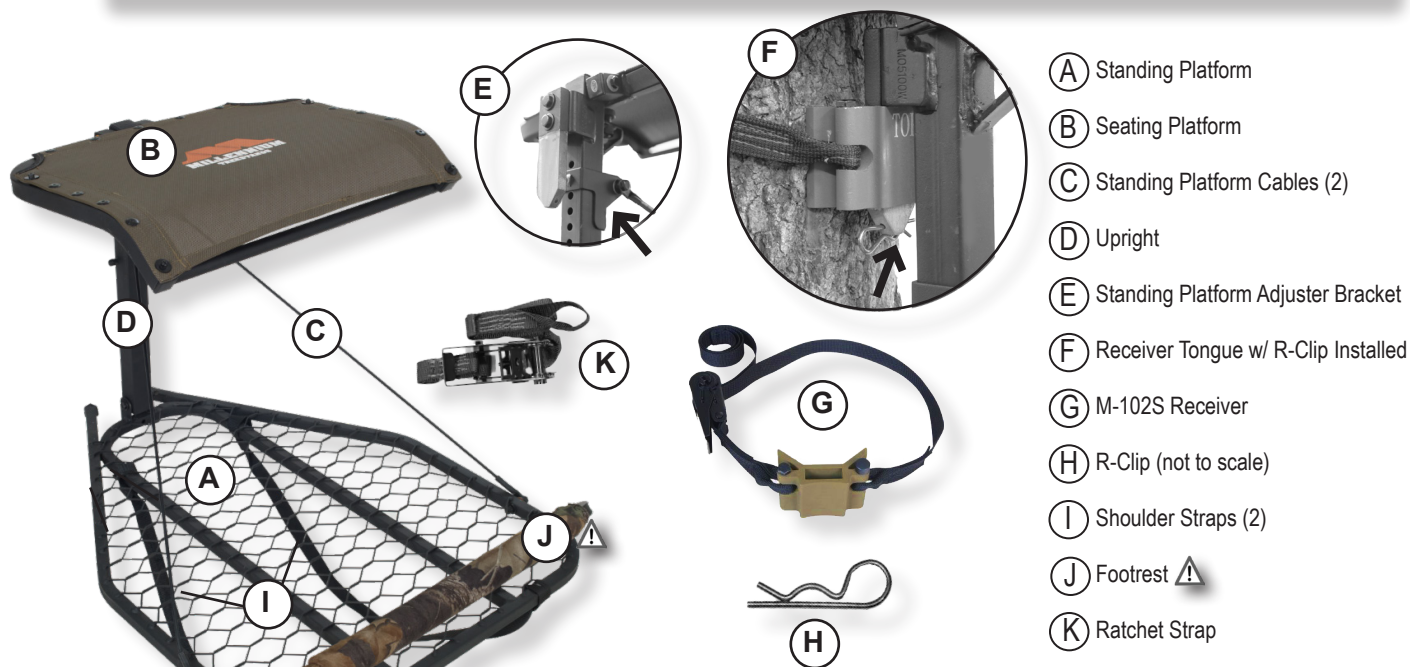
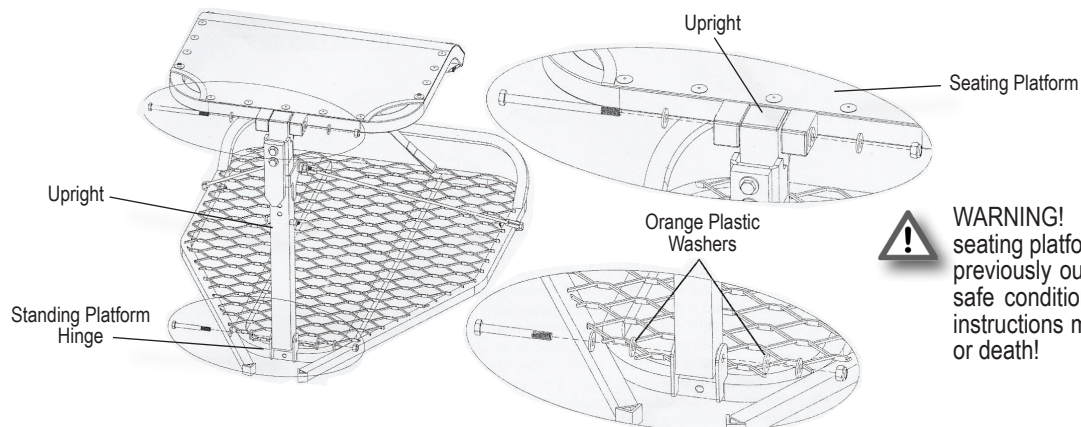
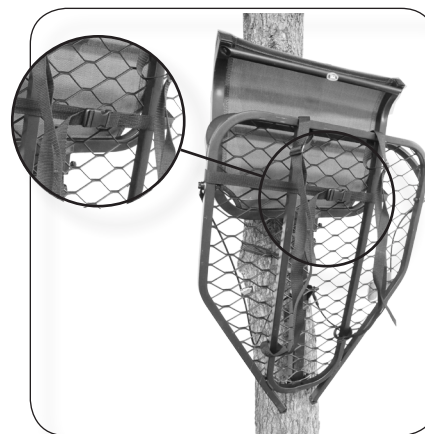
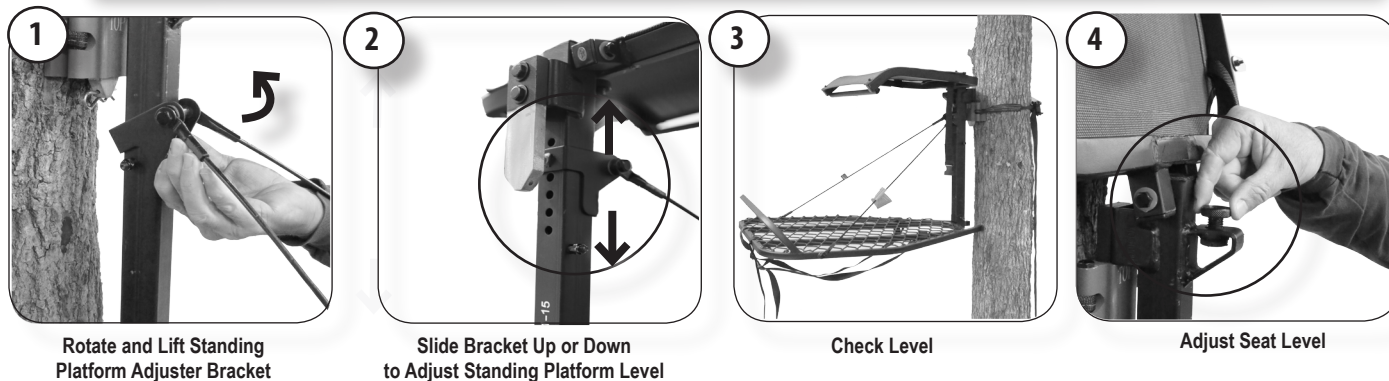

Figure 15
Figure 16
Figure 22
Figure 26
STEP 1: Locate the upright (refer to Figure 15). Slip the upright into the standing platform hinge as shown in Figure 16. Attach the upright to the standing platform hinge using one (1) 5/16" x 3" bolt, two (2) washers, two (2) orange plastic washers, and one (1) locknut as shown in Figure 16. Tighten the hardware without overtightening.
STEP 2: Locate the seating platform (refer to Figure 15). Install the seating platform onto the upright as shown in Figure 16. Attach the seating platform to the upright using one (1) 5/16" x 4 3/4" bolt, two (2) washers, and one (1) locknut as shown in Figure 16. Tighten the hardware without overtightening (torque to 50 inch pounds). Your seat must rotate up and down without any excessive force. If it does not, it is installed too tightly.
STEP 4: With your treestand attached to the pull-up (hoist) rope, and the tag-end in your possession (do not hold in hand), and your M-102S receiver (refer to Figure 15) in your possession (do not hold in hand), check to ensure your lineman belt is properly secured to you and is attached to the tree and carefully climb to the desired installation height.
STEP 10: With the M-102S receiver firmly installed, fold the treestand flat and secure the seating platform to the standing platform by engaging the seat strap around both as shown in Figure 22. Hoist your treestand up using the previously installed hoist rope. With the treestand still folded, gently lower the receiver tongue (refer to Figure 15) into the M-102S receiver as shown in Figure 23.
STEP 11: With the receiver tongue seated in the M-102S receiver, insert the R-Clip (refer to Figure 15) into the bottom of the receiver tongue as shown in Figure 25. You must install the R-Clip as outlined here, or an unsafe condition will exist.
STEP 12: With the R-Clip installed as previously outlined, remove the seat pin (refer to Figure 15). You may now gently lower the standing platform (refer to Figure 15) into place. When lowering the standing platform, the treestand will tighten itself to the tree. Once lowered, the two (2) lower tree contacts (refer to Figure 15) must engage the tree trunk for the treestand to operate safely. If they do not engage the tree trunk as shown in Figure 24, you must remove the treestand and reinstall it as outlined here until the lower tree contacts are firmly engaged to the tree trunk.
STEP 1: To adjust the angle of the standing platform, rotate and lift the standing platform adjuster bracket (refer to Figure 15) up to disengage it from the upright as shown in Figure 26. Slide the standing platform adjuster bracket either up or down to increase or decrease the angle of the standing platform. Move the standing platform adjuster bracket up or down as necessary until the standing platform is leveled as shown in Figure 26. Make certain the standing platform adjuster bracket is re-engaged once a level standing platform has been achieved as shown in Figure 26 (2).
STEP 2: To adjust the seating platform for level, rotate the seat adjustment knob either clockwise (to lower) or counterclockwise (to raise) to change the angle of the seating platform as shown in Figure 26 (4).
WARNING! You must ensure the standing platform adjuster bracket is squarely engaged as shown in Figure 26 (2). If it is not an unsafe condition will be present. Failure to follow these instructions may result in a serious injury or death!
STEP 1: With the treestand installed as previously outlined and the platform lowered and leveled, locate the ratchet strap (refer to Figure 15).